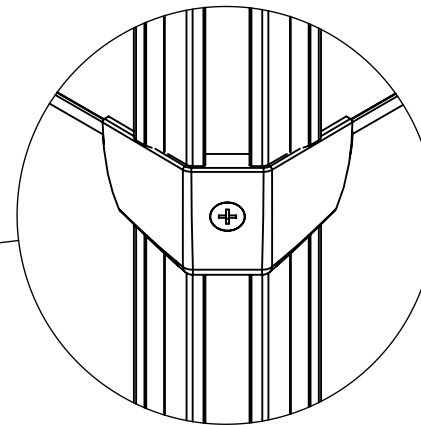

Fig. 17
19. To adjust duct height, loosen the 4 screws in the plastic cornerlocks (Fig. 17).
21. Securely tighten the 4 screws in the plastic corner locks (Fig. 17).